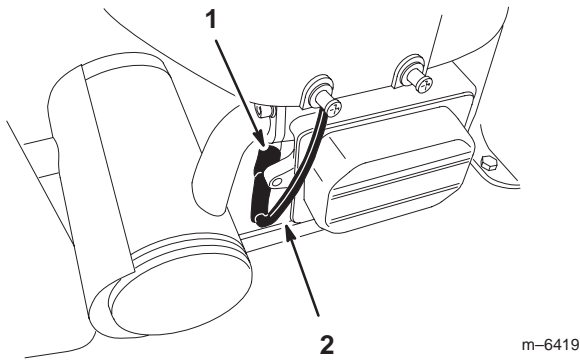

Figure 29
6. Disconnect the wire from the spark plug (Fig. 29).
8. Remove the spark plug and metal washer (Fig. 29).
3. Connect the wire to the spark plug (Fig. 29).